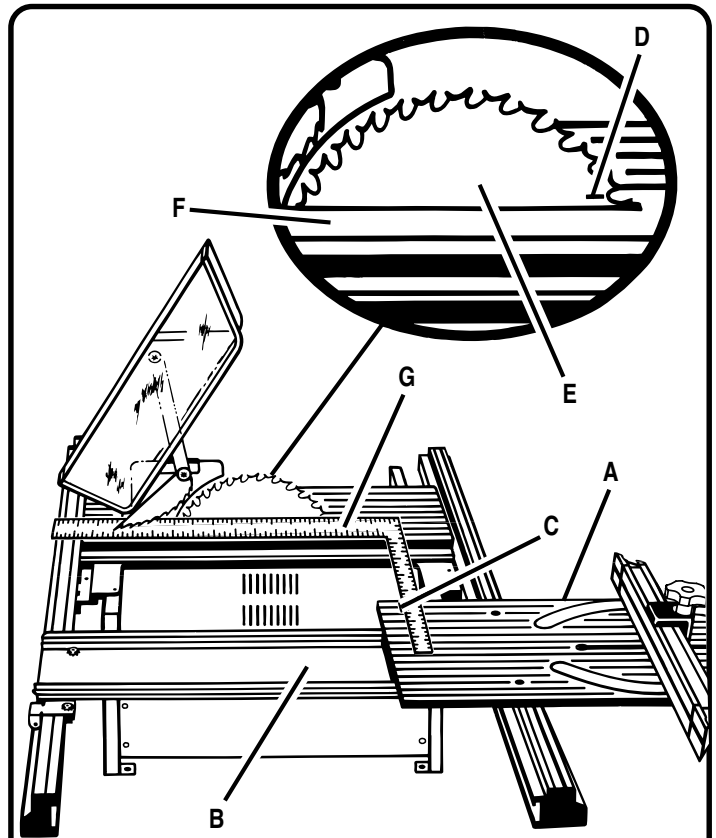

Fig. 51
- Slide miter table (A) to the front of miter base (B) as far as it will go. Place a reference mark (C) near the end of the miter table as shown in figure 51.